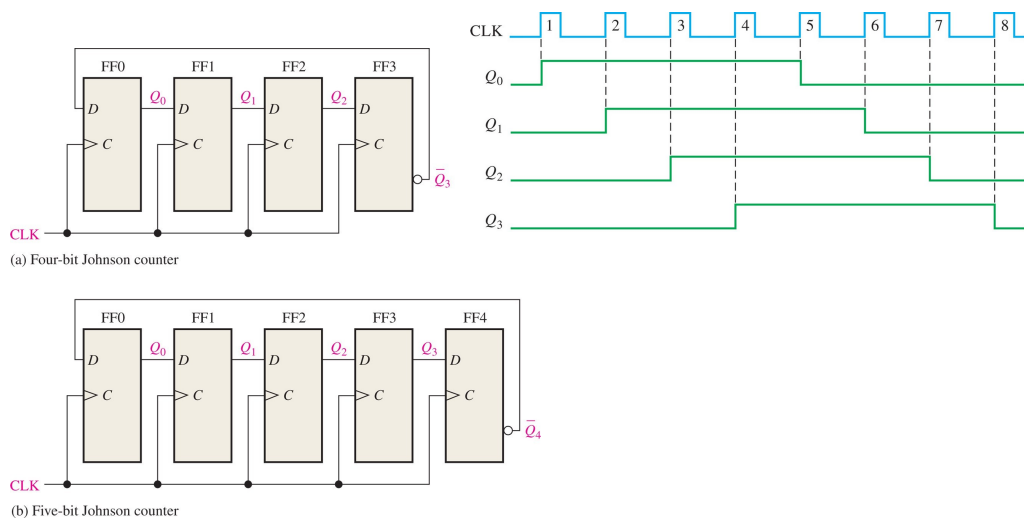

Figure 12: (Left) 4 and 5-bit Johnson counters. (Right) The timing diagram for the 4-bit case.
2. Consider Fig. 12, in which 4 and 5-bit Johnson counters are depicted. (a) Create a circuit based on Fig. 12 called a *combinatoric trigger*. Imagine four digital channels A, B, C, and D, as inputs. The output of the circuit should be True if *any two* of the four channels is True *within 100 ns of each other*. Develop any necessary logic symbols, and use the appropriate clock frequency. The Johnson counter(s) can have any number of bits.